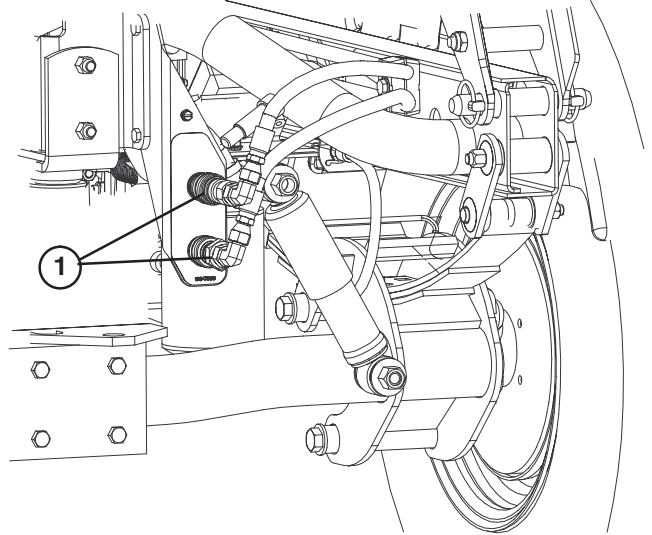

Figure 54
- On both vehicles, disconnect the two quick coupler hoses from the hoses secured to the coupler bracket (Fig. 54).